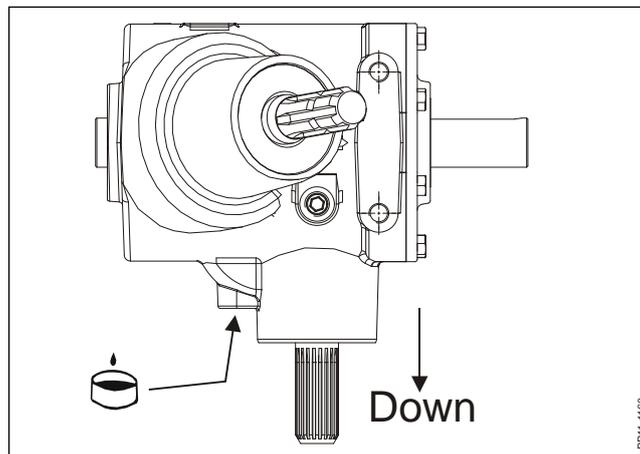

Fig. 4-8
- Fig. 4-8 Oil change:** First oil change after 50 working hours and then after every 500 working hours or at least once a year.